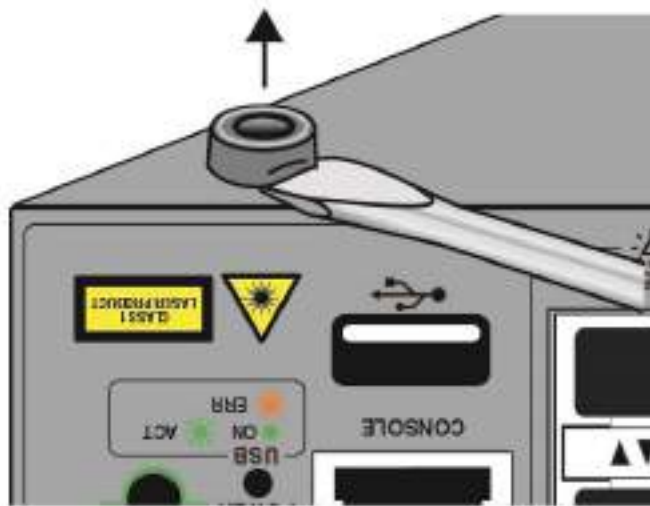

Figure 66. Removing the Bumper Feet
2. Use a small flat-head screwdriver to gently pry the feet from the bottom of the switch. Refer to Figure 66.